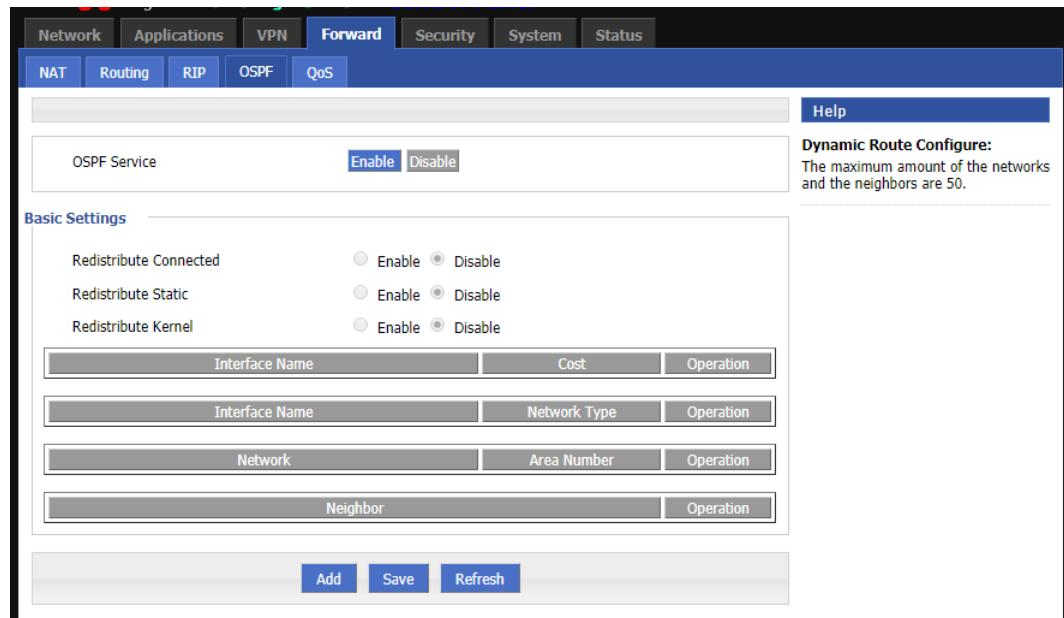

Figure 5-45 Ospf tab
Step 2 Click Forward Settings>OSPF to open the OSPF tab, as shown in Figure 5-45.